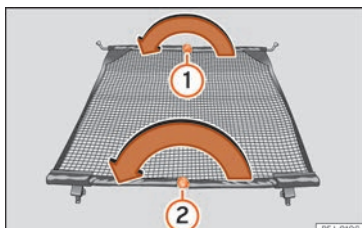

Fig. 128 Folding in the net partition.
- Press on the release button » **Fig. 128 ①** and bend the cross rod in the direction of the arrow with the button pressed.
- Press on the release button » **Fig. 128 ②** and bend the cross rod in the direction of the arrow with the button pressed.